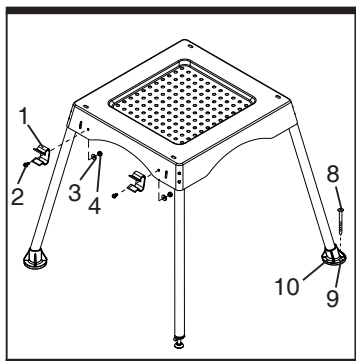

Fig 2-1
- 4) Thread the long screw (8) through the hole (9) on foot pad (10) to fasten the stand (See fig. 2-1).
1) Attach the fence storage clips (1) to the left of the stand assembly with screws (2) washers (3) and nuts (4) for rip fence storage (See fig. 2-1).